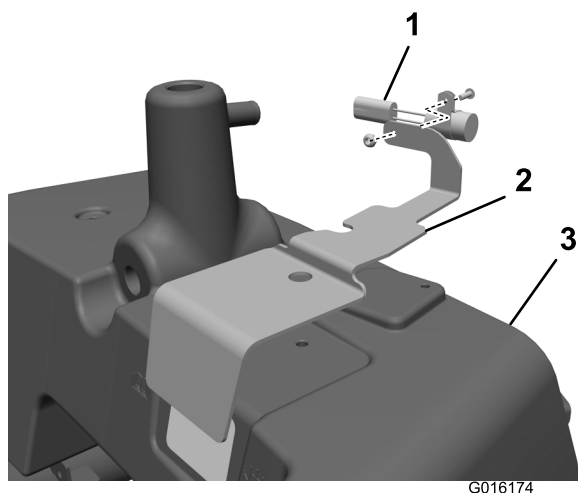

Figure 3
12. Install the delay timer on the oil level cover (diesel model only) (Figure 3).
13. Set the oil level cover in place, but do not secure it to the main hydraulic tank yet (Figure 3).
19. Install the oil level cover and solenoid valve assembly to the main hydraulic tank with 2 hex-head bolts and the shield bracket (Figure 3).